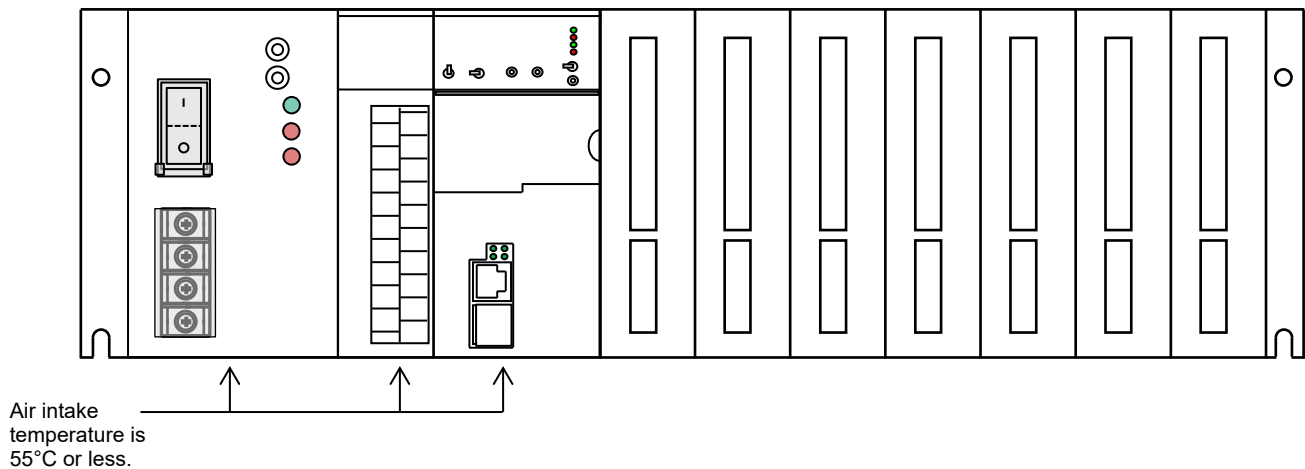

Figure 3-5 Installing units in the S10VE
Install units on the cubicle after ensuring that the ambient temperature around the unit is 55°C or less (that is, each module's air intake temperature is 55°C or less), as shown in Figure 3-5.
- The S10VE CPU module, which performs an equivalent function to the S10mini CPU+ET.NET module configuration, also has an equivalent current consumption and heat dissipation. For the S10VE, the interval between unit installations is decided by the temperature of the air intake side of the module. Therefore, confirm that each module's air intake temperature is 55°C or less, as shown in Figure 3-5.